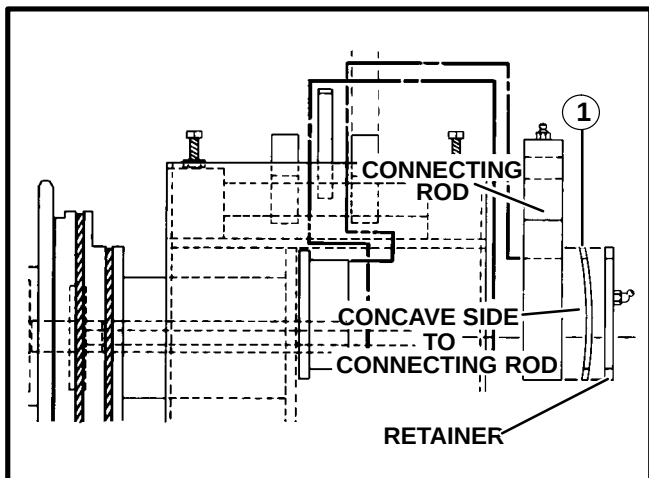

FIGURE 28
2. Install the connecting rod, seal ring (concave side toward connecting rod) and retainer. See Figure 28.